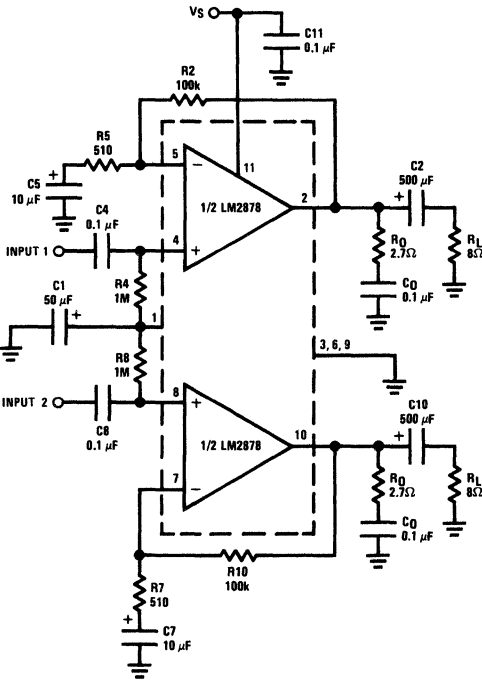

FIGURE 3. Stereo Amplifier with  $A_V = 200$
**External Components** (Figure 3)